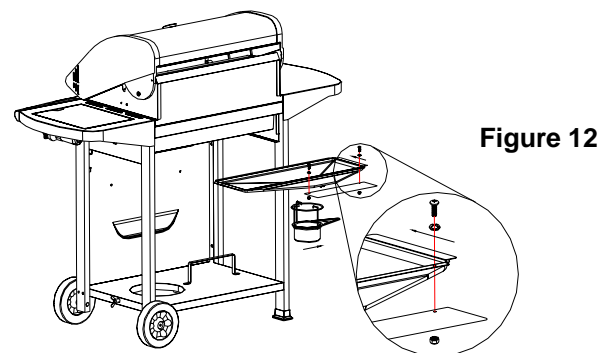

Figure 12
1. Insert grease tray assembly into opening on backside of grill. Make sure to slide tray onto tracks as illustrated and that the grease cup is on the right hand side from the back. Using (2) 5/32 x 2/5" Phillips head screw and (2) 5/32" nuts with (2) 5/32" lock washer attach the tank heat shield. (Fig 12)